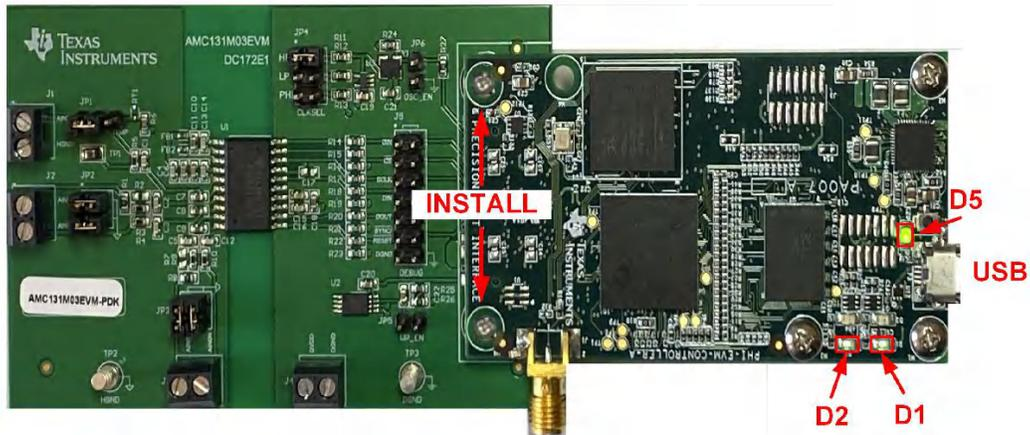

Figure 6-1. AMC131M03EVM Hardware Setup and LED Indicators
1. Connect the AMC131M03EVM to the PHI. Install the two screws as indicated in Figure 6-1.
- LEDs D1 and D2 on the PHI start blinking to indicate that the PHI is booted up and communicating with the PC; Figure 6-1 shows the resulting LED indicators